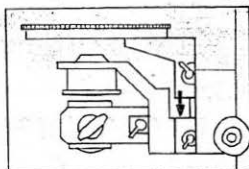

Fig. 1
2. Mount the circular rotatable stage. (Fig. 1)